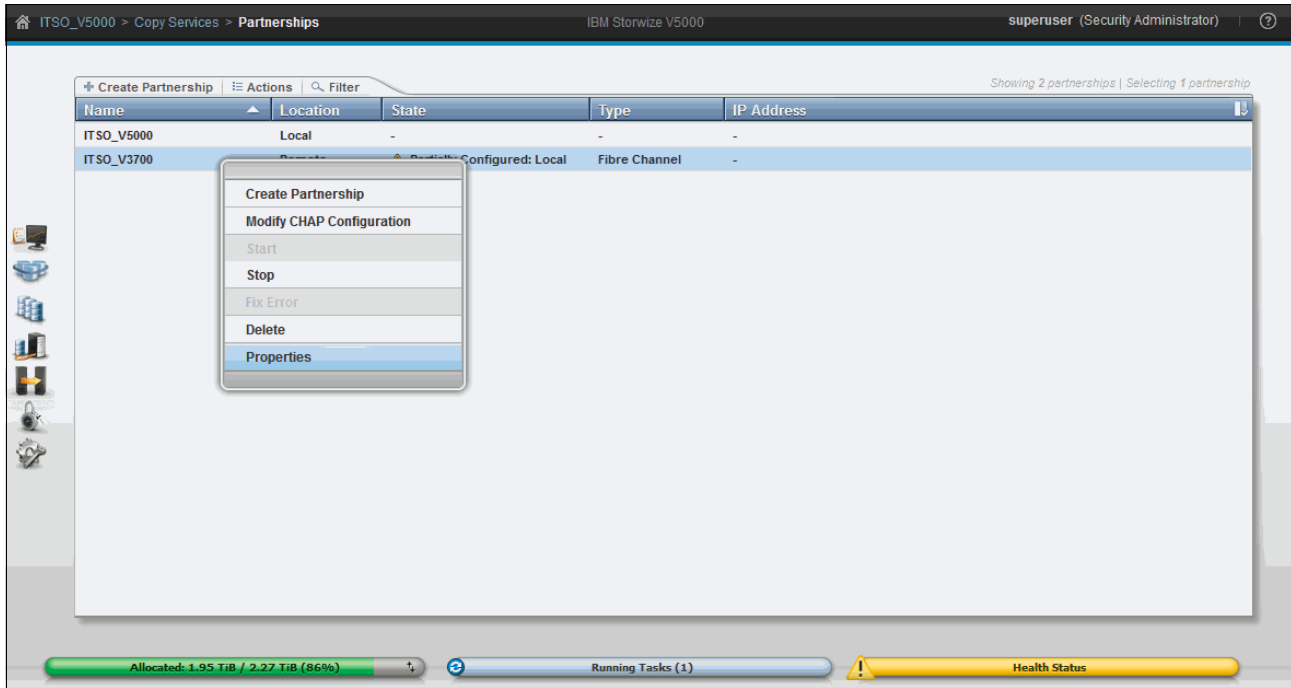

Figure 10-90 Partnership properties
9. If you select the partnership, more information is available through the Properties option on the **Actions** menu or by right-clicking, as shown in Figure 10-90.